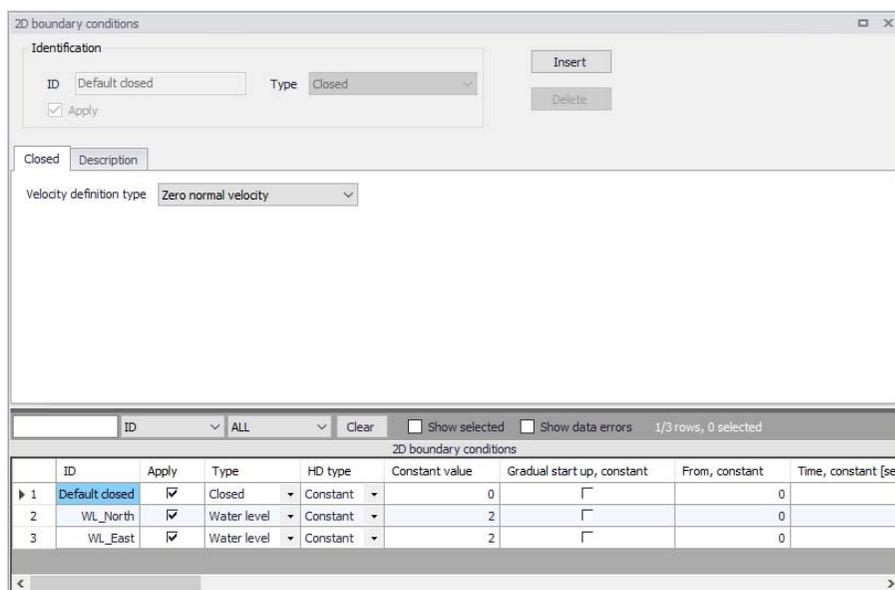

Figure 4.1 The 2D Boundary Conditions editor
If the 2D domain source is 'Domain file created from MIKE URBAN+ definition', the user must pre-define open 2D boundaries in the computation grid/mesh on the Map before configuring in the 2D Boundary Conditions editor (Figure 4.1). If the 2D domain source is 'Existing domain file', then the open 2D boundaries are identified from the selected flexible mesh file, and their locations cannot be modified in MIKE URBAN+.
3. Configure boundary conditions in the 2D Boundary Conditions Editor (Boundary|2D Boundary Conditions) (Figure 4.1). Details on the various configuration parameters for each type of boundary condition are described in succeeding sections.
- Configure all the defined boundary conditions in the 2D Boundary Conditions Editor (Boundary|2D Boundary Conditions) (Figure 4.1). Details on the various configuration parameters for each type of boundary condition are described in succeeding sections.